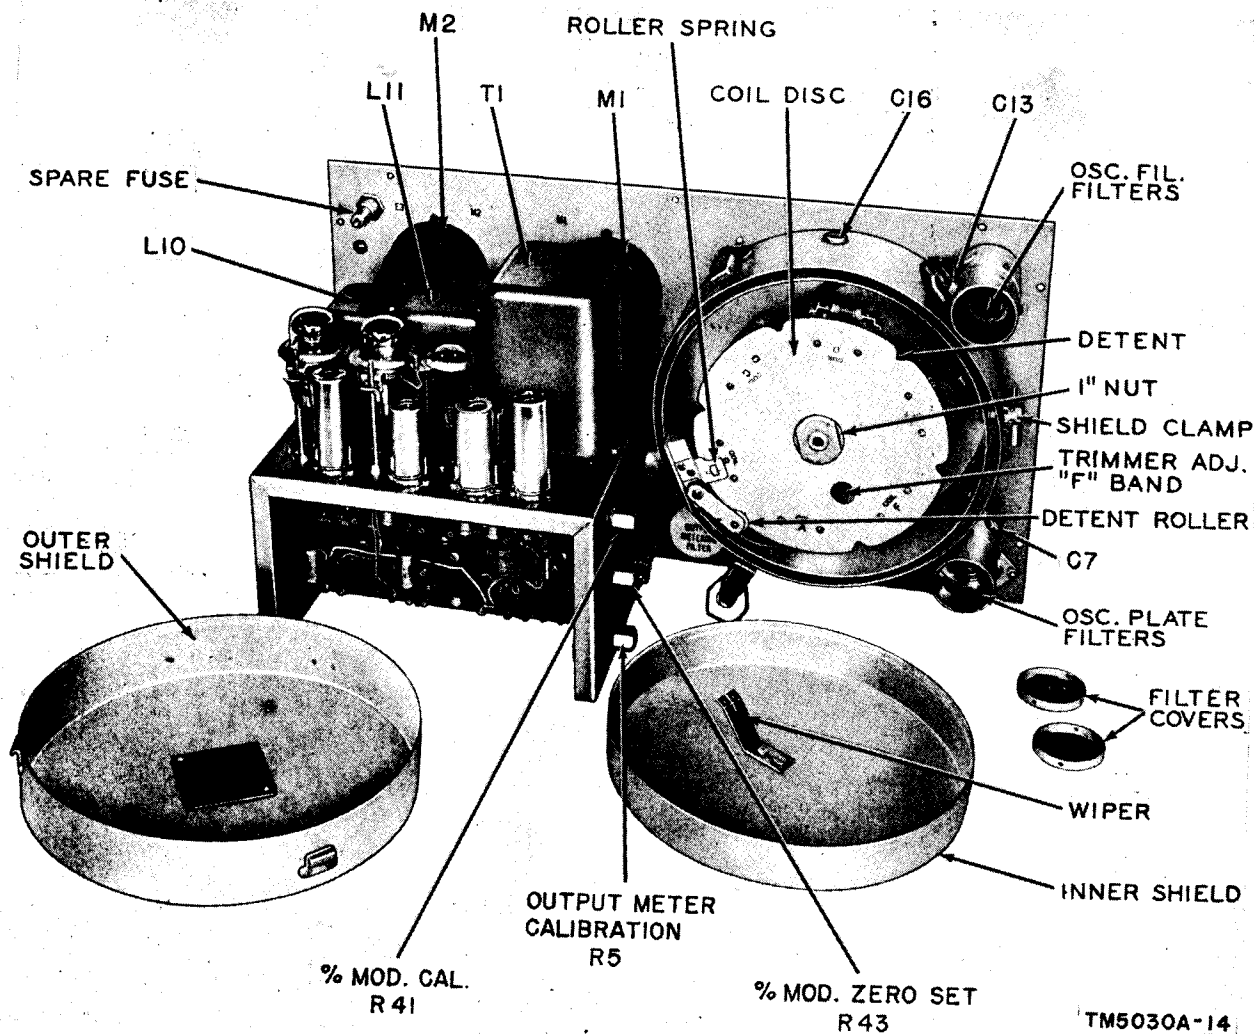

Figure 20. Signal Generator TS-497B/URR, inside rear view.
a. Drum Shields. When it is necessary to remove or replace the carrier oscillator drum shields, follow the procedures outlined in (1) through (3) below:
- (1) Carefully unlatch the three shield clamps. Remove the outer and inner shields. Never use tools to pry off these shields since slight dents may cause serious leakage of the carrier.
- (2) When replacing the inner shield, it must be positioned so that the grounding wiper lies adjacent to the roller spring (fig. 20).
- (3) Replace the outer shield and latch.
- (1) Remove the lower screw from the roller spring bracket. This screw is nearest to the roller spring (fig. 20).
- (2) Unscrew the upper screw about $\frac{1}{4}$ inch (2 turns). Remove the roller from the spring. The roller is held in position by the pressure of the spring.
- (3) Push the spring to the left far enough to clear the coil disk.
- (4) Rotate the coil disk to place the detent roller midway between two detents.
- c. Remove the two retaining screws which hold the coil mounting clips of the defective coil (figs. 20 and 21). In most cases, a defect in any part of the coil assembly will require replacement of the entire assembly.
c. Adjust R41 (fig. 20) (% MOD CAL) until the PERCENT MODULATION meter reads slightly less than 30 percent.
c. Insert a 1/4-inch socket wrench through the coil disk hole provided for this calibration (trimmer adjustment F band, fig. 20).
Replacement of one or both of the crystals may necessitate restandardization of the output metering system. This is done by readjusting the OUTPUT METER SET control (R5) (fig. 20) as follows: